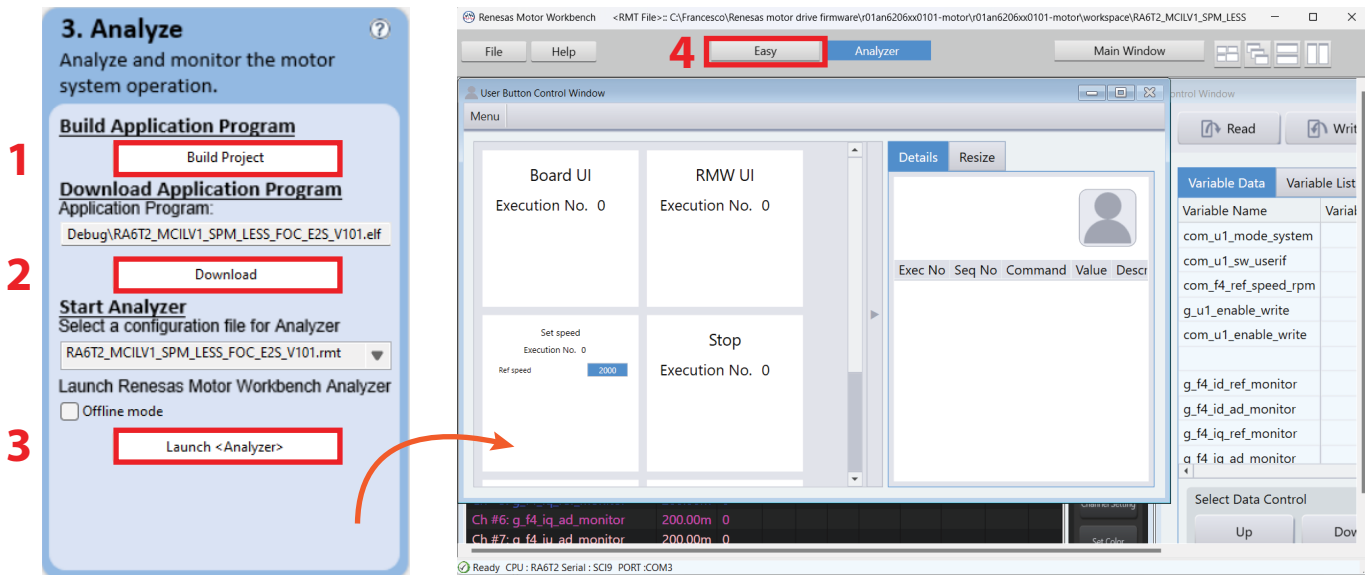

Figure 17: Build, Download and run project section
8. Start the motor control figure 17: